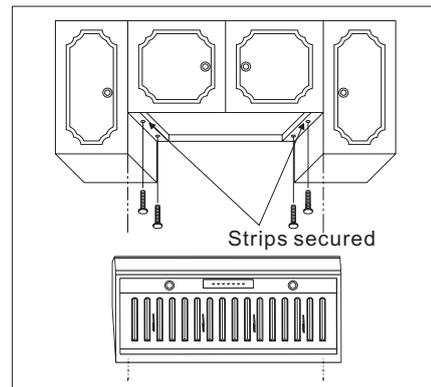

Fig.7
- c. Position the strips on the cabinet bottom and screw the strips securely to the cabinet (Fig.7)
- a. The six keyhole mounting slots for the hood. Mark these onto the bottom of the cabinet; or, if the cabinet bottom is recessed. Onto the wood strips (Fig.7)
- c. Screw the four 1" wood screws (for mounting the hood) into the exact center of the arrow and into the keyhole mounting slots marked on the cabinet bottom (for flush installations), or marked on the 1"x2" wood strips (for recessed cabinet installation) (Fig.7) Do not turn the mounting screws in all the way. Allow 3/8" of screw to project, so the hood can be fitted place. (The screws will be tightened later)